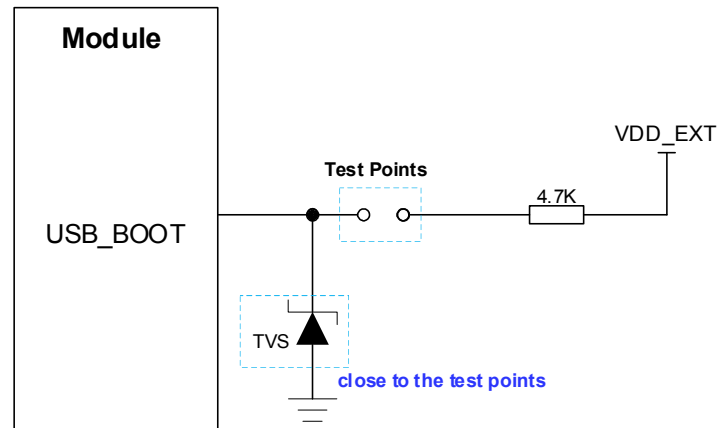

Figure 19: Reference Design of USB\_BOOT
2. When using MCU to control module to enter the emergency download mode, follow the above timing sequence. It is not recommended to pull up USB\_BOOT to 1.8 V before powering up VBAT. Connect the test points as shown in **Figure 19** can manually force the module to enter emergency download mode.